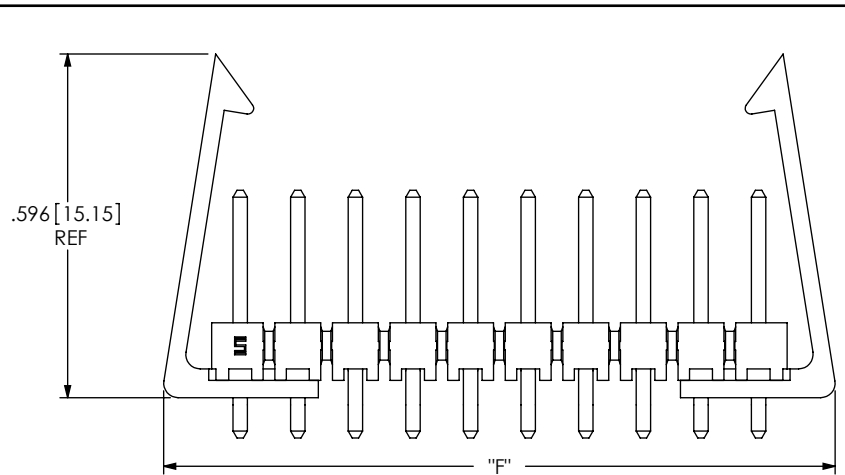

FIG 2: LOCKING CLIP
-LC: LOCKING CLIP (4 POS MINIMUM; ONLY AVAILABLE ON: LEAD STYLES -08 THRU -13 & -22, WITH ROW OPTIONS -S & -D; N/A WITH -MW, -RA OR -RE OPTIONS; SEE FIG 2, SHT 2)